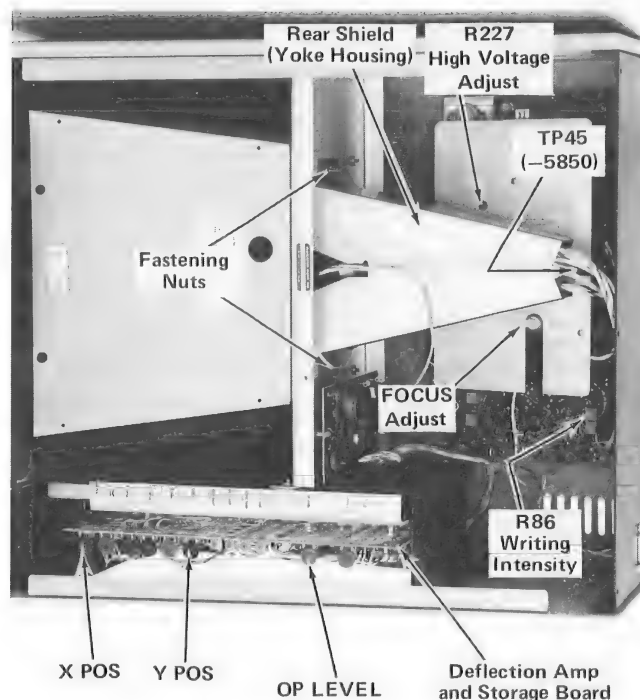
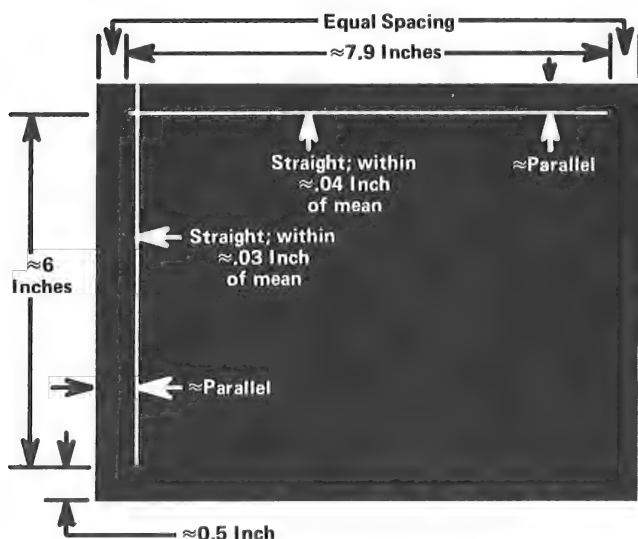

Fig. 4-6. High Voltage Adjustments and Test Points.
Fig. 4-8. Display Positioning, using Cross-hair Cursor.
a. With the Terminal off, set the voltmeter to read  $-5850$  V DC and connect it to TP45 on the High Voltage & Z Axis board in the back of the display unit. See Fig. 4-6.
c. After about one minute, press PAGE. Then check for  $-5850$  V at TP45. Adjust R227, High Voltage Adjust (Fig. 4-6) as necessary to obtain that value. Use a non-metallic screwdriver to minimize the possibility of causing a short circuit.
Storage board, Fig. 4-6) fully counterclockwise. (OP LEVEL will be adjusted properly in a later step.)
f. On the High Voltage & Z Axis board in the back of the display unit, rotate R86 Writing Intensity (Fig. 4-6) to increase intensity until the Alpha cursor can be seen near the center of the display. Do not make the cursor any brighter than is necessary. If the Alpha cursor doesn't appear, R81 on TC-1 may be set to the wrong limit, or the Terminal may be in Hold status. (Press SHIFT to clear Hold status.)
g. Press PAGE. The cursor should move to the top-left corner of the display. If the cursor was viewable in step f, and now has moved entirely out of the viewing area, turn X POS fully counterclockwise and Y POS fully clockwise to bring the cursor back into view. X POS and Y POS are located on the top of the Deflection Amp & Storage board in the display unit. See Fig. 4-6.
h. Press PAGE and check for the momentary appearance of a dot at the bottom-left of the cursor position. The dot may appear just before the cursor comes back into view. Adjust R86 (Fig. 4-6) until a dim dot momentarily appears at the bottom-left corner of the cursor position after the erase cycle, as just described. Then readjust R86 just to the point where the dot no longer appears after an erase cycle. The cursor should still be visible.
j. Adjust FOCUS ADJUST on the High Voltage & Z Axis board in the display unit (Fig. 4-6) to obtain a reasonably focused cursor. (Final focusing will be done later in the procedure.)
d. Check display positioning. It should meet the following requirements (see Fig. 4-8):
e. If lines are excessively long, set X GAIN and/or Y GAIN fully counterclockwise. (These, and other display adjustments are located on the top of the Deflection Amp & Storage board in the display unit. See Fig. 4-6. Use Fig. 4-8 as a display reference.)
(1) Adjust X POS for approximate left-right centering of horizontal line.
(2) Adjust Y POS to approximately center the vertical line segment described by its lower end and the point of intercept with the horizontal line (vertical thumbwheel at upper limit).
(3) If necessary, rotate the neck shield or yoke-mounting bracket (depending on assembly type) to obtain approximately equal spacing between the ends of the horizontal line and the top edge of the display area. Two nuts hold the yoke housing in place behind the center divider in the display unit (Fig. 4-6). Final adjustment and tightening of the yoke housing is done in a later step.
(4) Adjust X GEOM for approximate straightness of the vertical line; vertical line to be positioned as close to the left edge of the display area as possible by using the horizontal thumbwheel.
(5) Adjust Y GEOM for approximate straightness of the horizontal line, with the vertical thumbwheel at its upper limit.
(13) If the Zs do not store, gradually increase the OP LEVEL setting (Top of Deflection Amp & Storage board in display unit, Fig. 4-6) while entering Zs until they do store. Do not set OP LEVEL any higher than necessary.
(14) Press PAGE and again enter four Zs.
(15) Enter ESC and CTRL Z. The Zs should remain and the crosshair cursor should appear.
(16) Using the horizontal thumbwheel, place the vertical line so that it passes through a Z.
(17) Check vertical gain. The distance from the bottom of the vertical line to the top of a Z should be approximately 6.0 inches. If it is not, adjust Y GAIN to compensate for the error. (Adjust the bottom of the